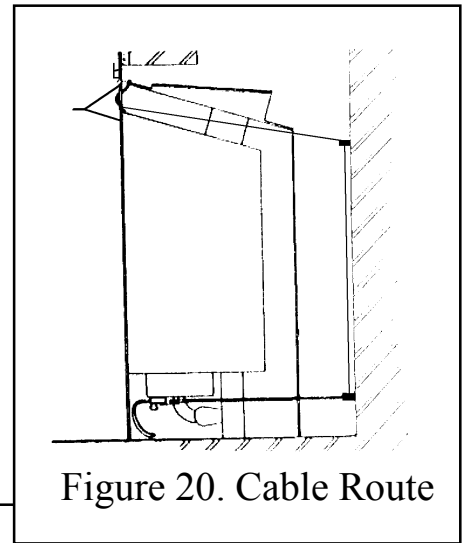

Figure 20. Cable Route
6. Thread the cables through the eyebolts. Return the cables through the holes near the bottom of the convection box back panel, (**For precast or clay block flue systems return the cables through the slotted holes in the side of the convection box**), and through the “V” shaped brackets near the bottom front sides of the convection box - See figure 20.